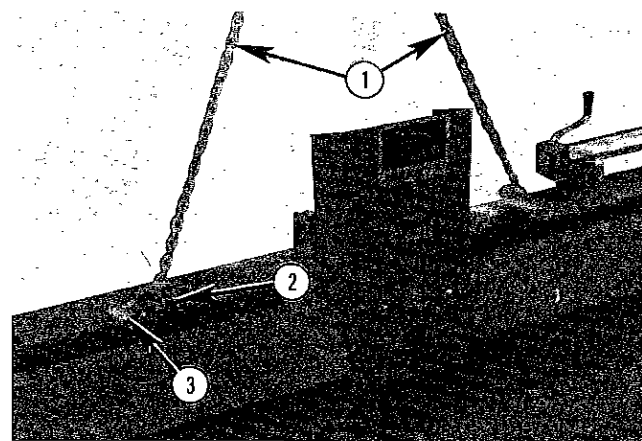

FIGURE 98
Irrespective of the above 2 offloading methods used, prepare to tilt the unit down by hooking an approx. 5' long sling chain (1) securely around both 1" dia. hitch pins (2) the same as in Figure 98 above. Securely place solid (do not use hollow concrete) blocks under rear corners of each end of the unit as shown at (3). Blocks should be approximately 8" square.